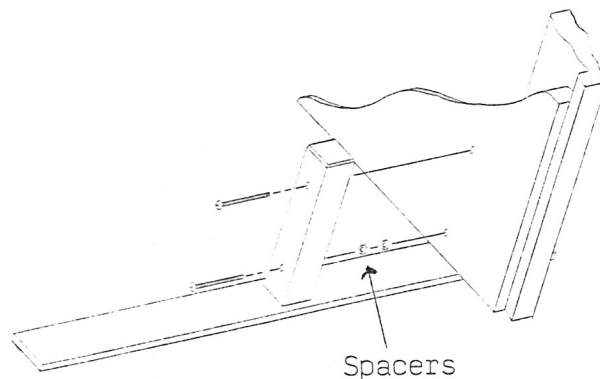

Figure 1
- D. Carefully align foot on backside of panel so holes in the foot line up with the holes in the panel. Using your fingers, insert a bolt through the bottom hole and through the spacers (see Figure 1) until the bolt engages with the nut in the panel. Care must be taken not to crossthread the bolts.